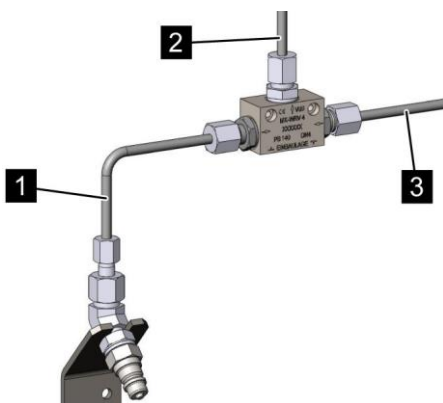

Fig. 116: Connecting the pilot line
7. ➤ Connect the pilot line (Fig. 116/1) to the test connection and ensure correct connection: